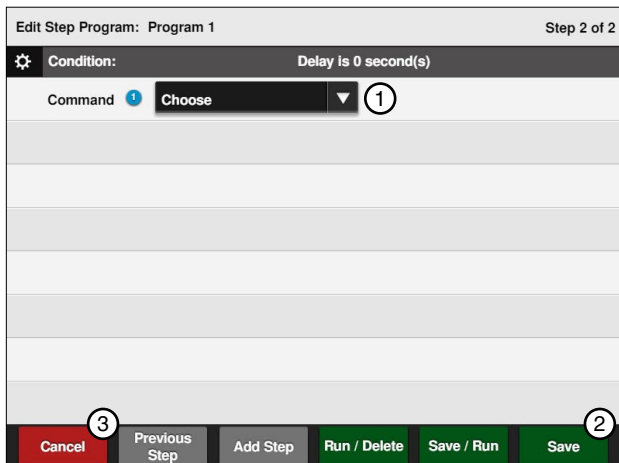

Figure 92-3 1. Choose Command Drop-Down
8. Finish the program by selecting one of the following. Refer to Figure 92-3.